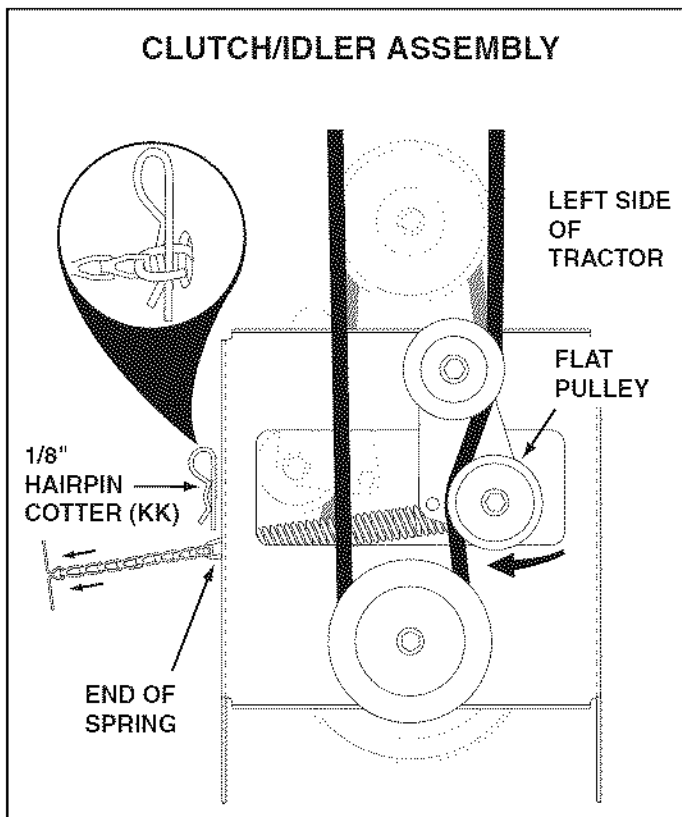

FIGURE 57
STEP 59: (SEE FIGURE 57)
- Pull the tensioning chain until the end of the spring is pulled through the hole in the side of the Clutch/Idler assembly. Install the 1/8" hairpin cotter (KK) through the end of the spring, securing it on the outside of the Clutch/Idler assembly.